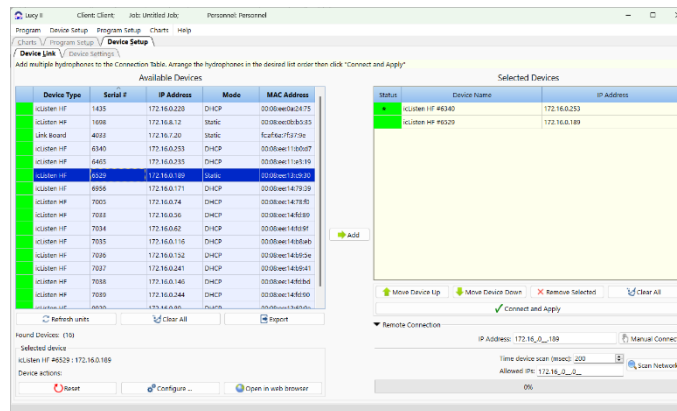
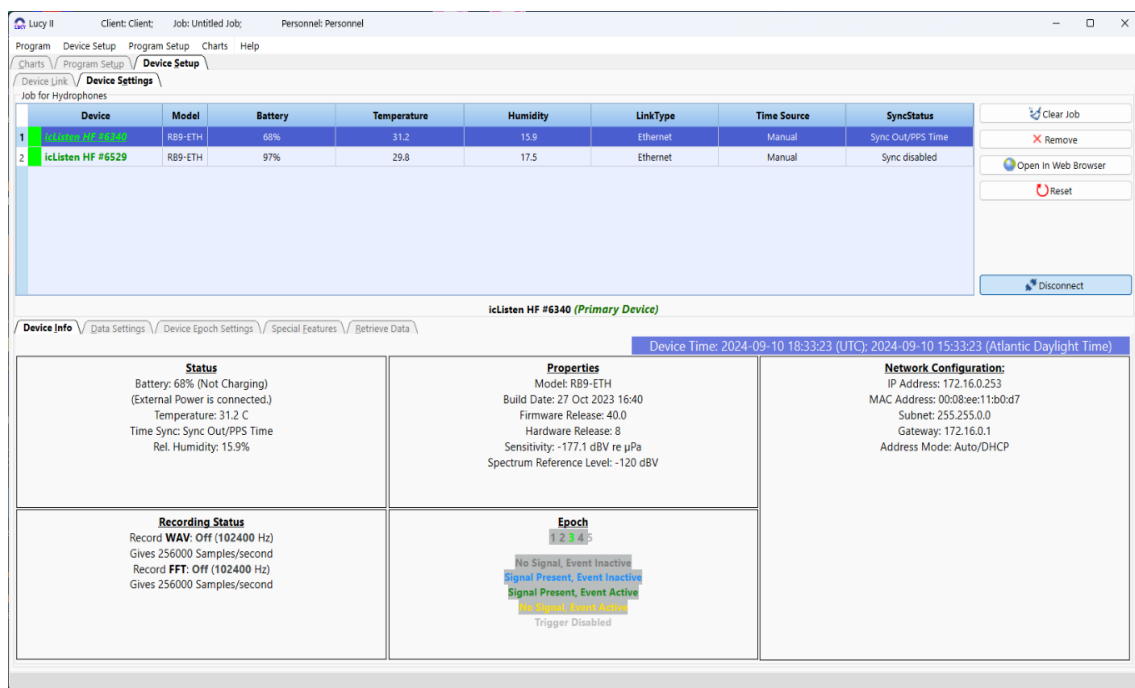

Figure 1-3 Device Link – Selecting an Available Device to Connect
Figure 1-4 Device Setup – Device Settings
7. Select a device from the device list (left table, available devices) (Figure 1-3).
8. Click on the **“Add”** button or *double click left mouse button* on the hydrophone row. The device will be added to right table (Selected Array Devices) (Figure 1-3).
10. Click on the button **“Connect and Apply”** (Figure 1-3). The program will open to the **Device Settings** Tab to select and update settings for your deployment (Figure 1-4).
14. The program will return to the **“Device setting”** tab (Figure 1-4).